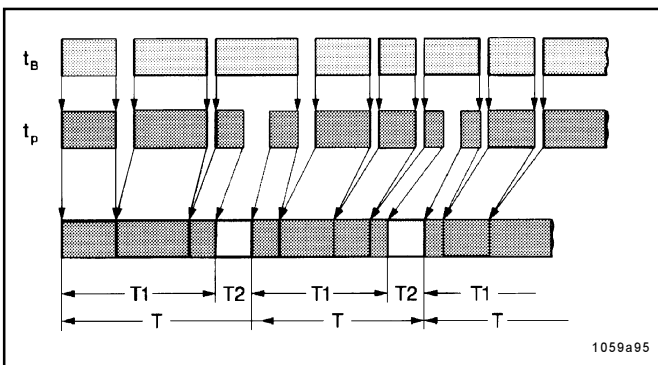

Fig. 18 - Time sequence diagram
- The printed circuit board automatically controls the sequence of the pause and operating times of the 233 centralized lubrication pump as a function of the vehicle or machine working hours  $t_B$  (fig. 18).
- A lubrication cycle consists of one pause time and one operating time. Once the pause time has elapsed, the operating time starts to run. This lubrication cycle is repeated permanently after the machine or vehicle has been put into operation (fig. 18).